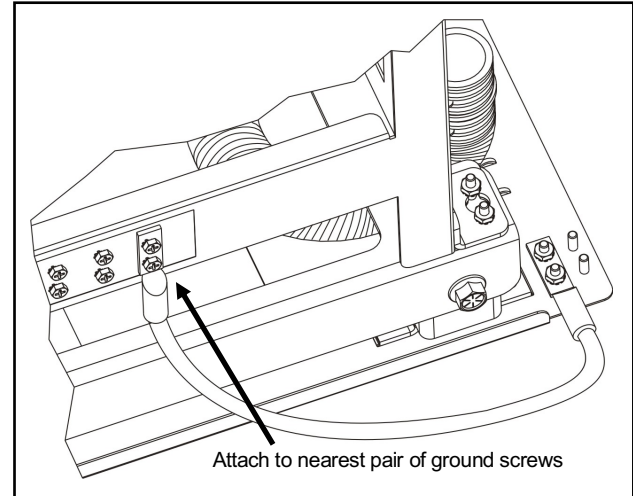

Figure 6. Ground strap attachment
- ① Locate the included ground strap and two of the #10-32 hex nuts. Referring to Figure 6, fasten one of strap's the dual-hole connectors to the **nearest pair of ground bus screws** on the wall rack, using screws supplied with the wall rack.
- ② Fasten the other end of the ground strap to the grounding studs on the SOA-10U23 frame with both hex nuts. Ground studs are located on both the top and bottom of the frame, accommodating either orientation of the wall rack ground bus. **Use the ground studs on the SOA-10U23 framed that are nearest to the ground bus of the wall rack.** This provides the proper amount of slack in the ground cable, allowing the swing-out mechanism to operate correctly.
- ③ Install a dual ground lug (customer provided) with holes on 5/8" centers to the adjacent ground studs on the SOA-10U23, use two of the included #10-32 hex nuts to fasten the lug securely.
- ④ Connect a ground wire of appropriate gauge to the ground lug, and attach the other end of the wire to a bonded ground point, per local procedures for network equipment.
- ① Use the SOA-10U23 tie-down points to hold equipment cables in place with tie-downs or other fasteners that are appropriate for the cable type.
- ② Fiber jumpers or pigtails can be fed through the corrugated flexible tubes that are pre-attached to the SOA-10U23 frame.